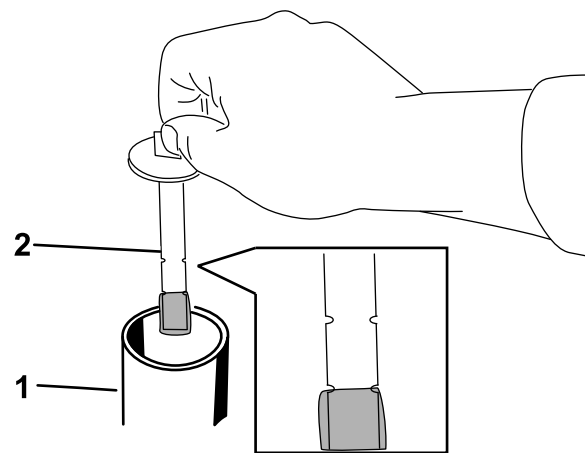

Figure 78
7. Remove the filler-neck cap and check the fluid level on the dipstick (Figure 78).